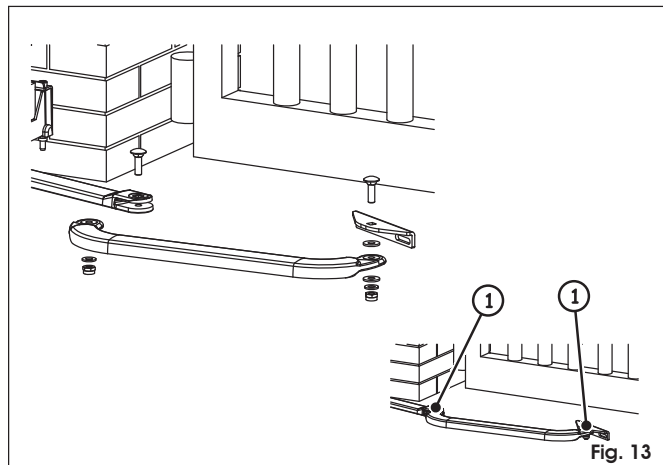

Fig. 13
7. Assemble the rest of the arm as illustrated in Fig. 13.
👉 For correct operation, tighten the two securing screws (Fig. 13 ref. ①) and then loosen them by about 1/2 turn to enable rotation without any friction on the arms.